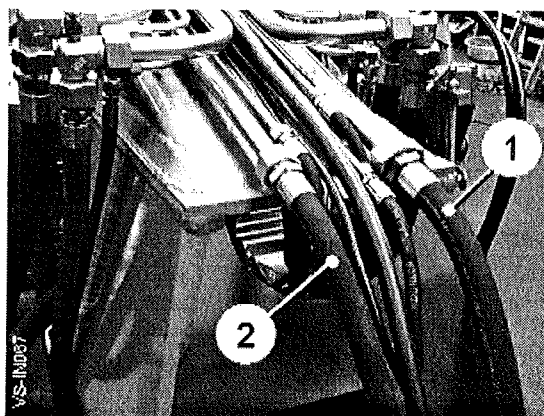

Fig 2
1. Connect the hydraulic return hose marked blue (item 1, fig 2) to the tractor manufacturer's recommended low back-pressure return coupling.
2. Connect the pressure hose marked red (item 2, fig 2) to the tractor outlet recommended for constant supply. If in doubt, refer to the tractor handbook. If the flow is adjustable, it should be set to supply a minimum 50 litres/minute. The harvester hydraulics will accept up to 80 litres/minute maximum.